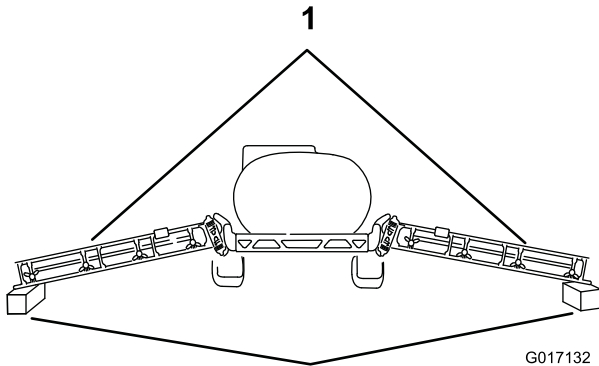

Figure 5
3. Carefully lower the booms onto wooden blocks about 10 cm (4 inches) high (Figure 5).